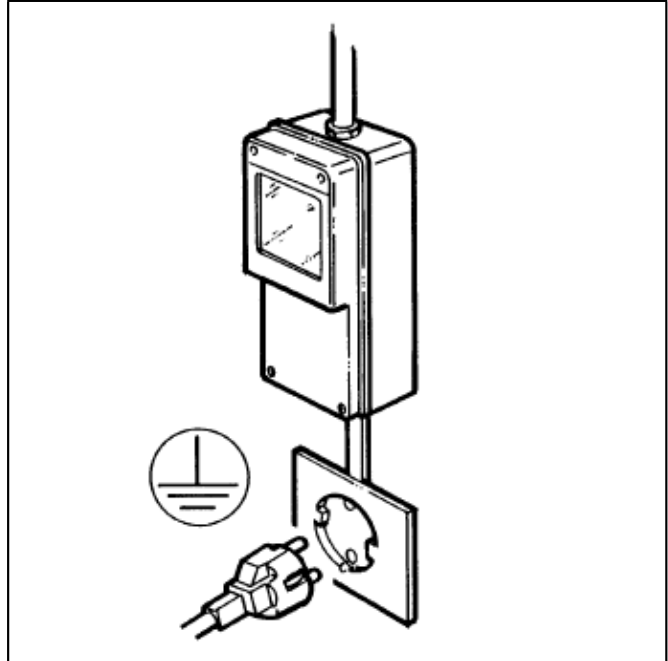

Рис. 3
- The machine's electrical safety is only guaranteed when it is connected to a suitable earth system, structured as provided by the national safety current regulations (Рис.3). Therefore, the manufacturer cannot be held responsible for any damage due to failure of the grounding system of the machine.
- For a safe and correct installation, it is essential to provide a suitable socket controlled by a thermal cut-out switch whose contacts are at least 3 mm apart, in accordance with the current national safety regulations (see Рис.3).